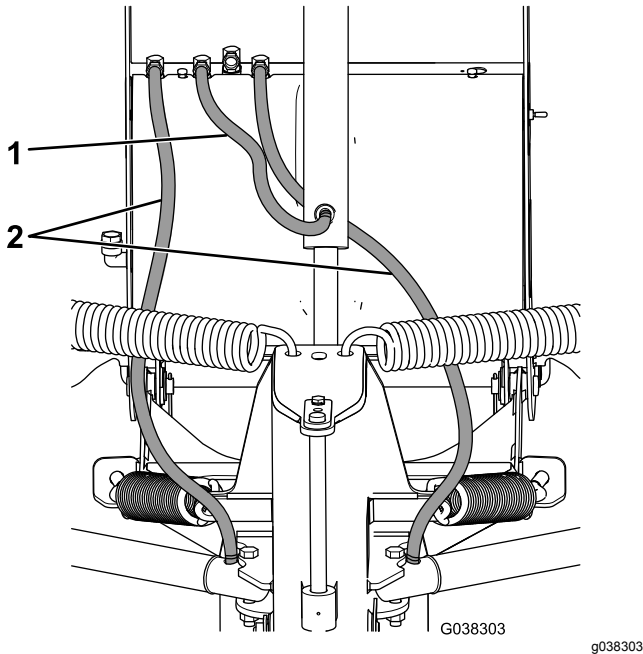

Figure 9
1. Install a swivel fitting to the lower port on the lift cylinder (Figure 9).
2. Install the 45 cm (18 inch) hydraulic hose to the middle fitting on the hydraulic shelf and the lower fitting on the lift cylinder (Figure 9). Turn the fitting until it is finger tight, then turn it 2 to 3 more times.
4. Install the O-ring end of the 106 cm (42 inch) hydraulic hose to the port on the right angle cylinder and the other end to the right fitting on the hydraulic shelf (Figure 9). Turn the fitting until it is finger tight, then turn it 2 to 3 more times.